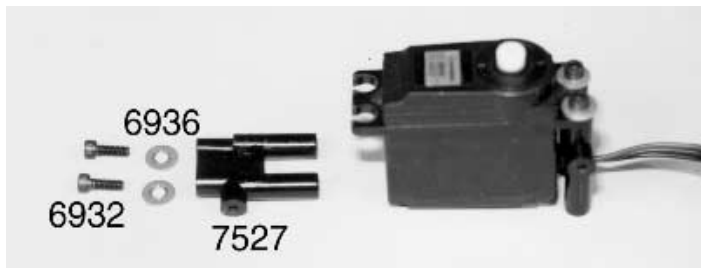

Fig. 162
□ **Fig. 162** From your bushing kit you will need to locate and remove bag #6-13. This contains the parts to assemble our mechanical throttle control. This is a race legal resistor style throttle control which has a nine step forward and a five step brake circuit. **THIS RESISTOR DOES NOT HAVE REVERSE.** The following steps show you how to assemble, install, and adjust the mechanical speed control using our new mount and bracket system. **Note:** The new throttle servo mounts will only fit a medium size servo (this is what is standard with most of the major radio systems).
Open bag #6-13 and remove the two #7527 throttle servo mounts, four #6932 4-40 x 5/16" socket head cap screws, and four #6936 #4 aluminum flat washers. Arrange your servo and servo mounts as in fig. 162. Now secure the servo mounts to the servo using the #6932 screws and #6936 washers.